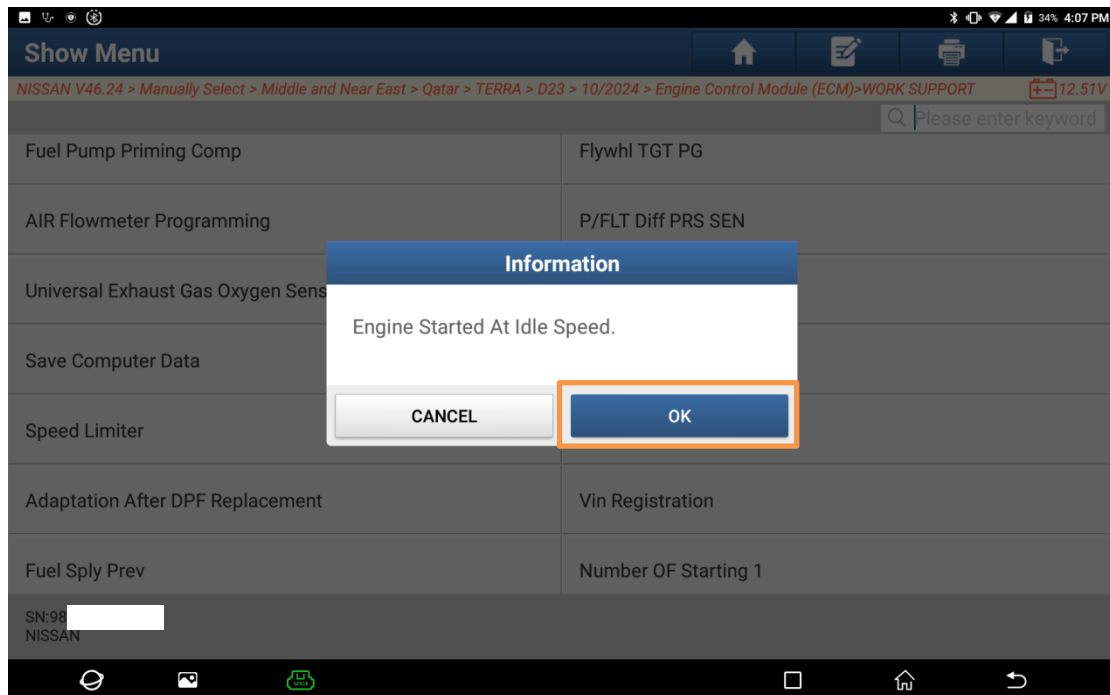

Figure 12
8. Carefully read the pop-up prompt information in Figure 12. Ensure that the engine is started and idling, and then click [OK] to proceed to the next step.